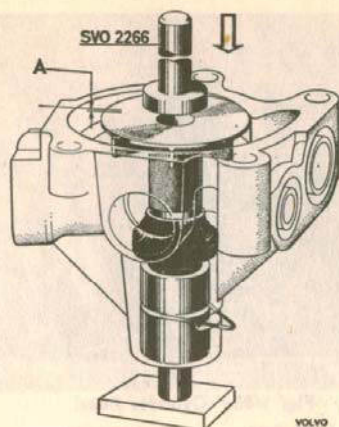

Fig. 1-90. Fitting the impeller
3. Press down the impeller with tool SVO 2266 so far that the impeller is level with or up to 0.016" (0.4 mm) below the pump housing surface. The lower end of the shaft should rest against a counterhold. See Fig. 1-90.